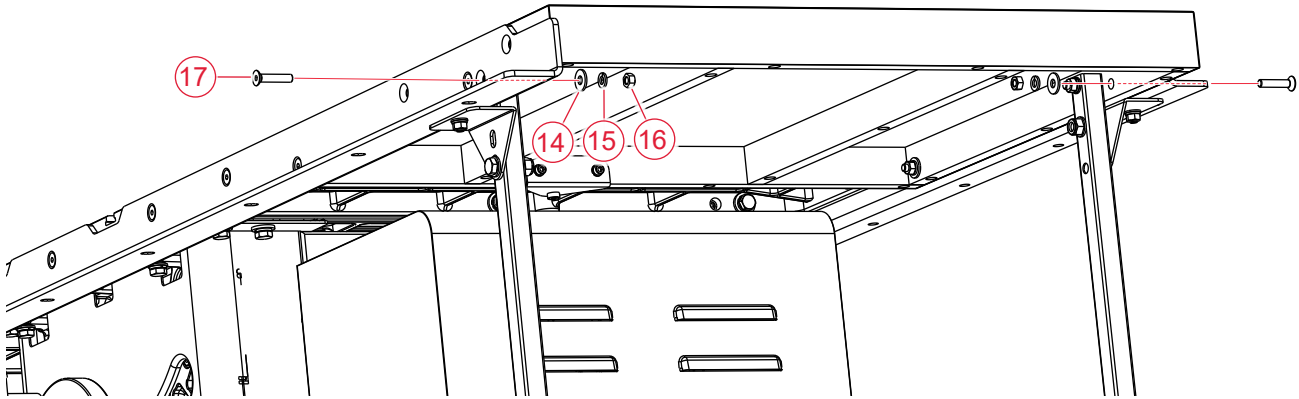

Fig. 17
**Extension Table, 36 Inch Fence System (cont.):** Insert an M8 x 40 countersunk socket head bolt (17) through the one remaining **front** rail hole and into the corresponding hole in the front edge of the extension table (Fig. 17). Place an M8 washer (14), an M8 lock washer (15) and an M8 hex nut (16) and hand-tighten.